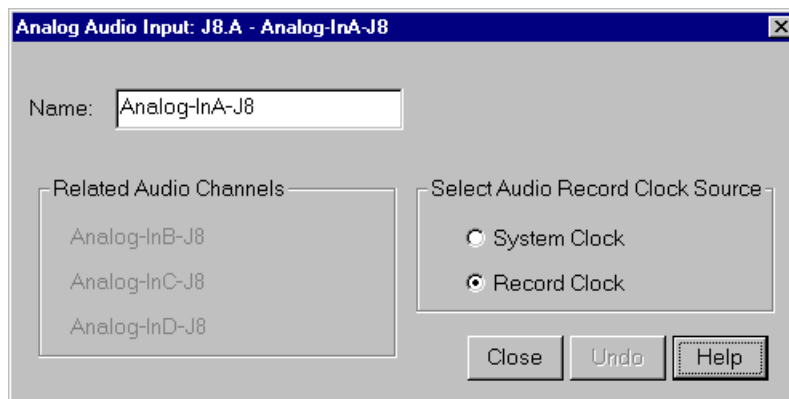

Figure 28. Analog Audio Input dialog box
1. Select **Audio Input** from the configuration tree, and then click or double-click an analog audio name from the list, such as *Analog-InA-J8*. The dialog box appears, as shown in Figure 28.